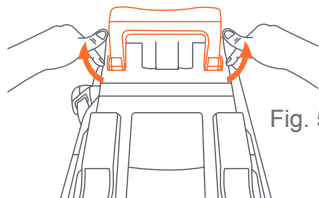

Fig. 53-3
- 3- While holding buttons in rotate elevation foot up into the locked position (Fig. 53-3).